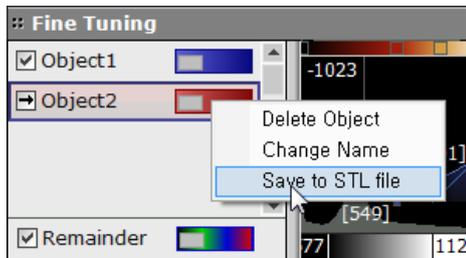

Fig. 173 Select [Save to STL file]
Step 2: Right-click on desired object mask and select [Save to STL file] as shown in Fig. 173.